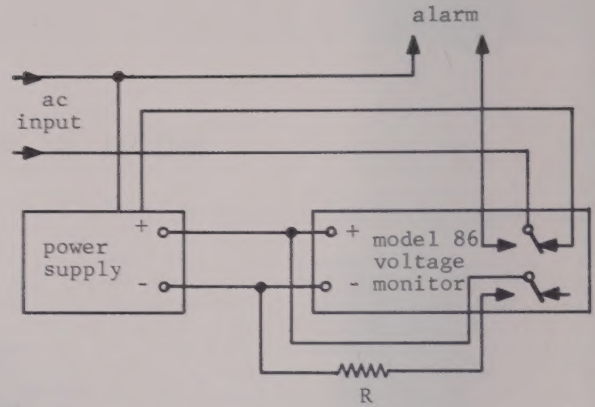

Figure 2. Model 86 Voltage Monitor, operating connections in relay mode. R= small resistance to bring voltage down rapidly.
- a. With all equipment turned off make connection as shown in figure 2.*